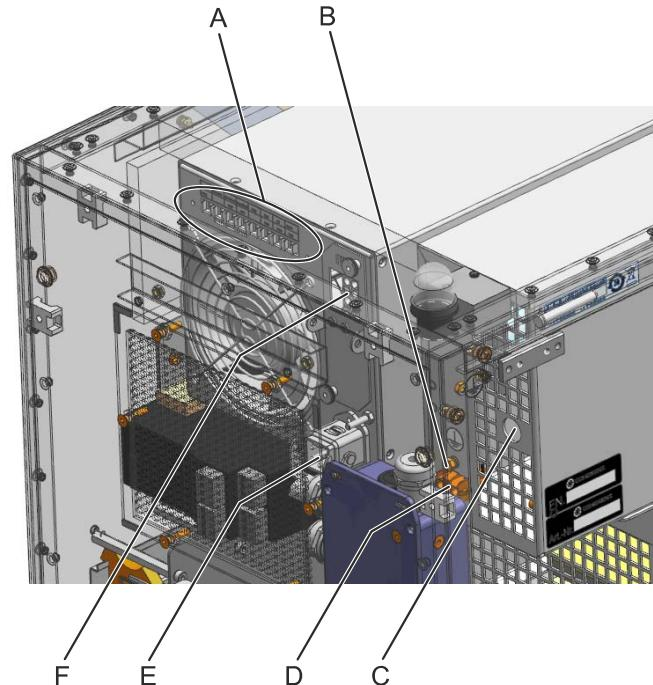

Figure 19: Connections on thyatron supply unit and HV power supply
19. Disconnect the trigger FOL (see Figure 19, C), mains power (D) and grounding cable (B) from the thyatron supply unit.
20. Disconnect the mains power (see Figure 19, E), interlock circuit (F) FOLs (A) from the HV power supply.